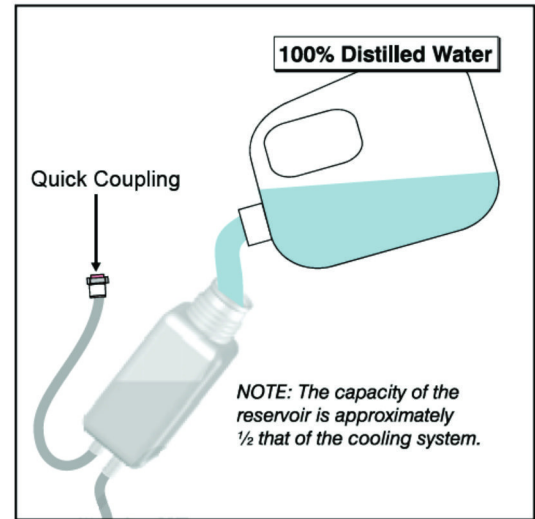

Figure 6 Flush with Distilled Water
4. **Fully Flush and Rinse:** As the system begins to empty, add plain distilled water to thoroughly flush and rinse all hoses (**Figure 6**). Watch carefully for air locks (including under the projector) and make sure the pump does not run dry, as this can damage the pump. Draining will happen very quickly.